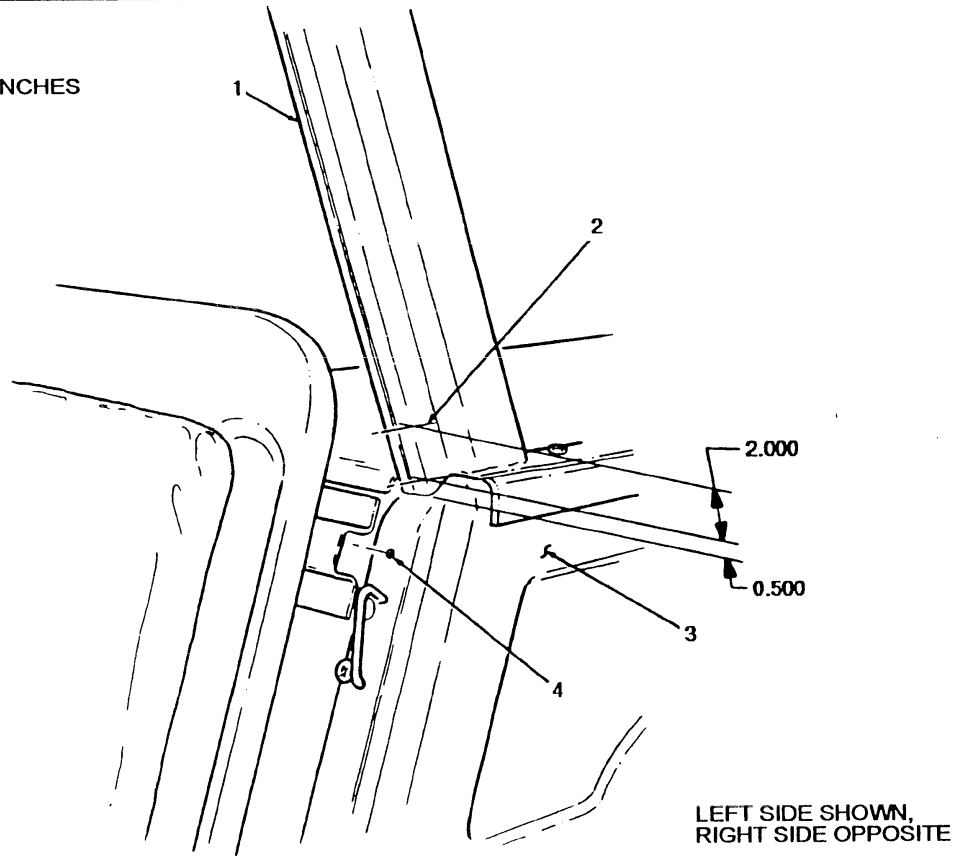
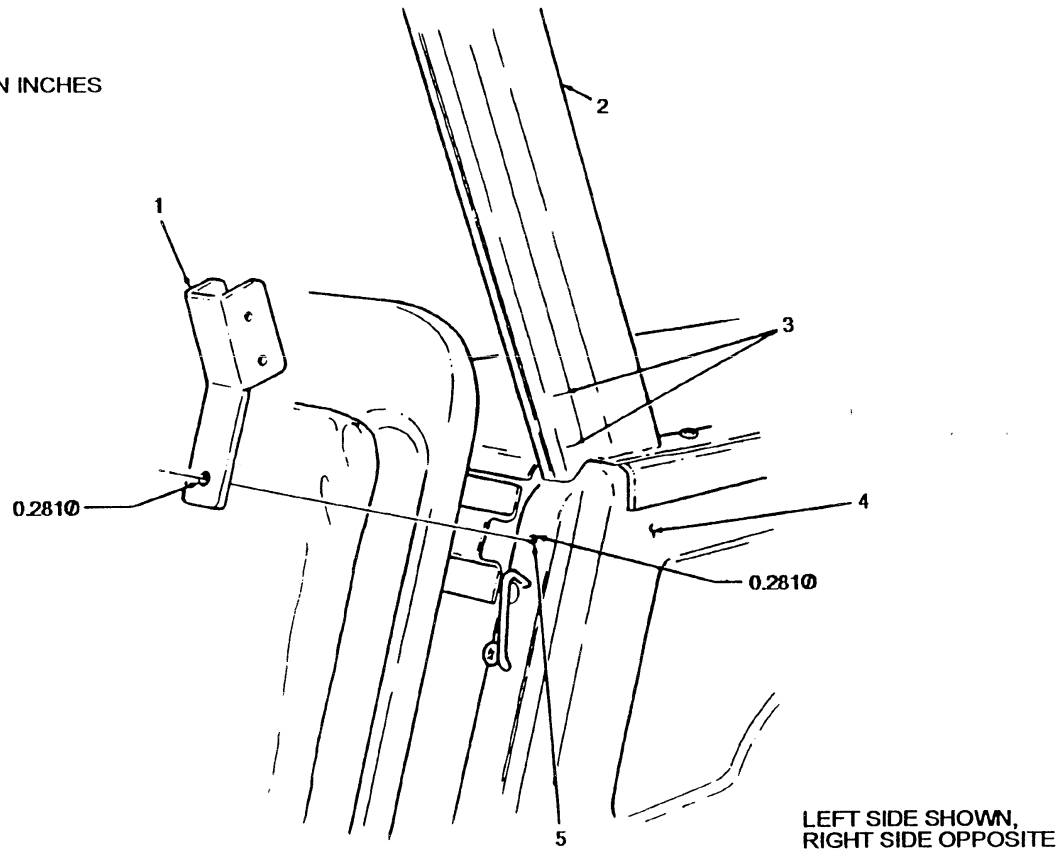
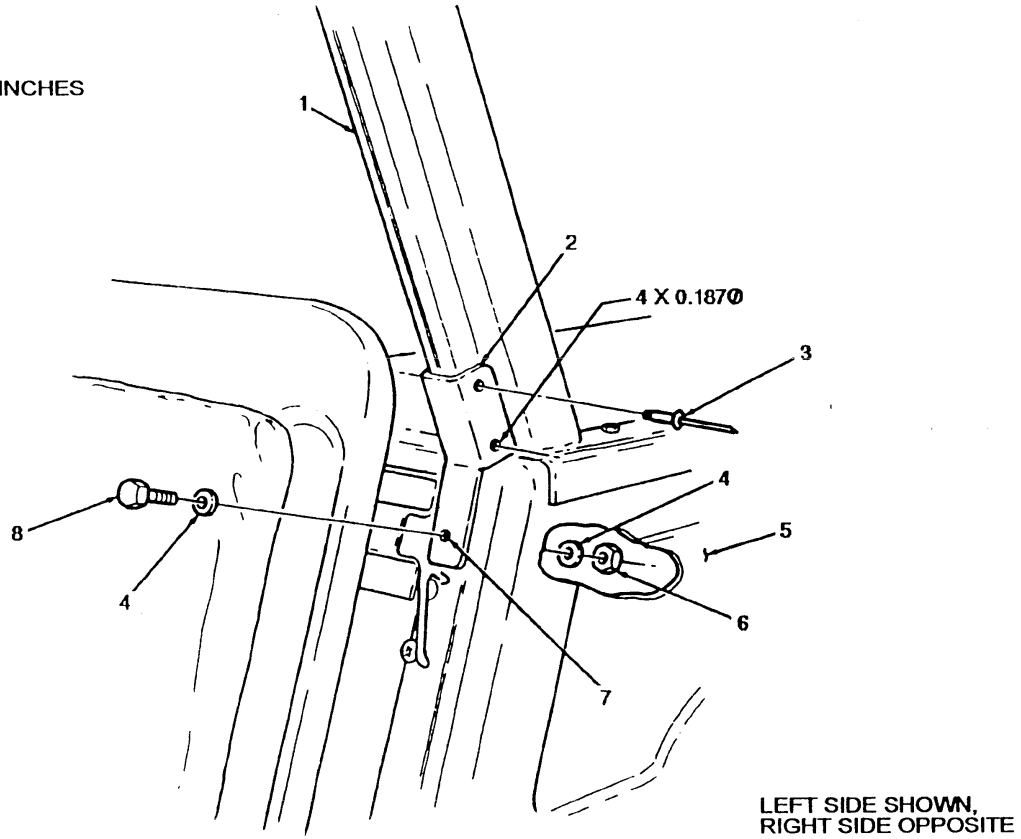

FIGURE 3-22
FIGURE 3-23
FIGURE 3-24
2. Using a 0.187-inch drill, remove rivet (4) on left wheelhousing (3). (see figure 3-22)
3. Scribe two reference lines (2) on left "C" pillar (1).
4. Align reinforcement bracket (1) within reference lines (3) on left "C" pillar (2). (see figure 3-23)
5. Scribe hole (5) location on left wheelhousing (4) onto reinforcement bracket (1).
6. Using reinforcement bracket (2) as a template, drill four 0.187-inch diameter holes through reinforcement bracket (2) and left "C" pillar (1). (see figure 3-24) Remove reinforcement bracket (2).
7. Using a 0.281-inch drill, enlarge hole (5) in left wheelhousing (4). (see figure 3-23)
8. Using hole location marked in step 5, drill 0.281-inch diameter hole in reinforcement bracket (1).
9. Spot paint reinforcement bracket (1). (Refer to TM 43-0139.)
10. Position reinforcement bracket (2) to left "C" pillar (1) and secure with four NSN 5320-01-034-1884 rivets (3). (see figure 3-24)
11. Align mount holes (7) in reinforcement bracket (2) and left wheelhousing (5) and secure with NSN 5305-00-993-2457 screw (8), two NSN 5310-00-081-4219 washers (4), and NSN 5310-00-483-8791 nut (6).
2. Using a 0.187-inch drill, remove rivet (4) on right wheelhousing (3). (see figure 3-22)
3. Scribe two reference lines (2) on right "C" pillar (1).
4. Align reinforcement bracket (1) within reference lines (3) on right "C" pillar (2). (see figure 3-23)
5. Scribe hole (5) location on right wheelhousing (4) onto reinforcement bracket (1).
6. Using reinforcement bracket (2) as a template, drill four 0.187-inch diameter holes through reinforcement bracket (2) and right "C" pillar (1). (see figure 3-24) Remove reinforcement bracket (2).
7. Using 0.281-inch drill, enlarge hole (5) in right wheelhousing (4). (see figure 3-23)
10. Position reinforcement bracket (2) to right "C" pillar (1) and secure with four NSN 5320-01-034-1884 rivets (3). (see figure 3-24)
11. Align mount holes (7) in reinforcement bracket (2) and right wheelhousing (5) and secure with NSN 5305-00-993-2457 screw (8), two 5310-00-081-4219 washers (4), and NSN 5310-00-483-8791 nut (6).